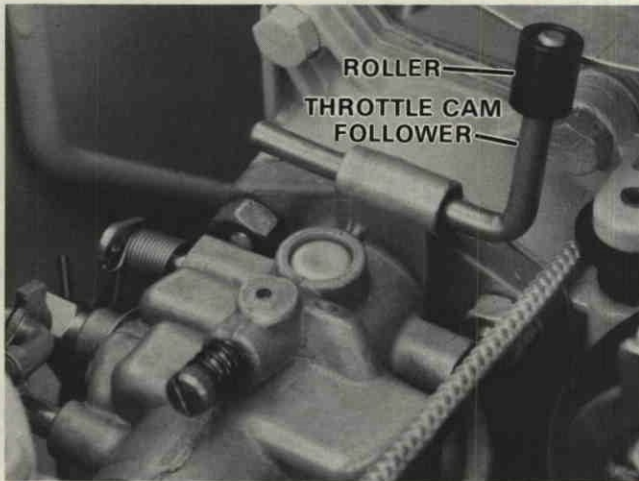

Figure 31. Installing Throttle Cam Follower and Roller.
B. Install throttle cam follower with roller through port side of boss on carburetor. Figure 31.